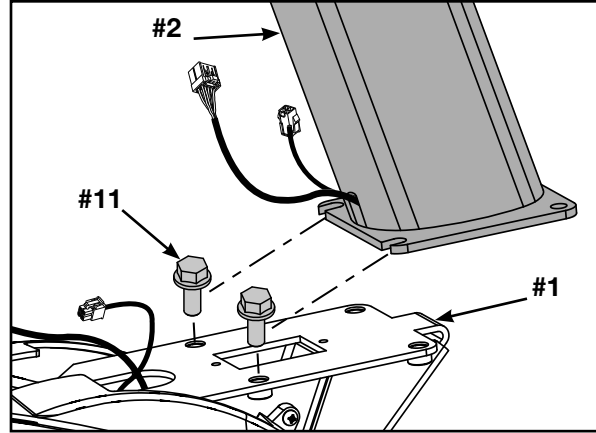

Figure 4
- B. Hand thread two mounting screws 5/16-18 x .75" (#11) into the base assembly. See Figure 4.
- C. Place the console assembly (#2) in the correct position on the base assembly (#1) by sliding into position onto the two mounting screws 5/16-18 x .75" (#11). See Figure 4.